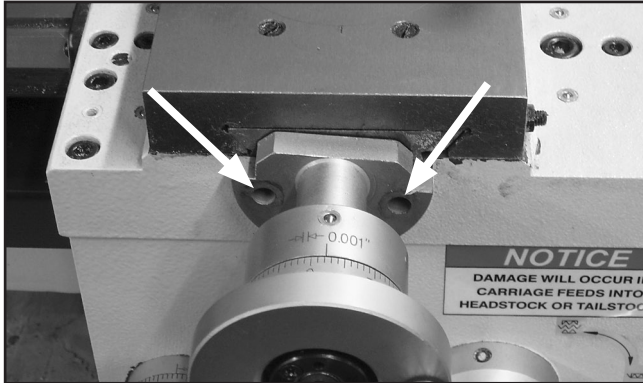

Figure 22. Hex bolts removed from adapter shaft.
1. Remove the two hex bolts with flat washers from the adapter shaft of the cross slide handwheel, as shown in **Figure 22**.